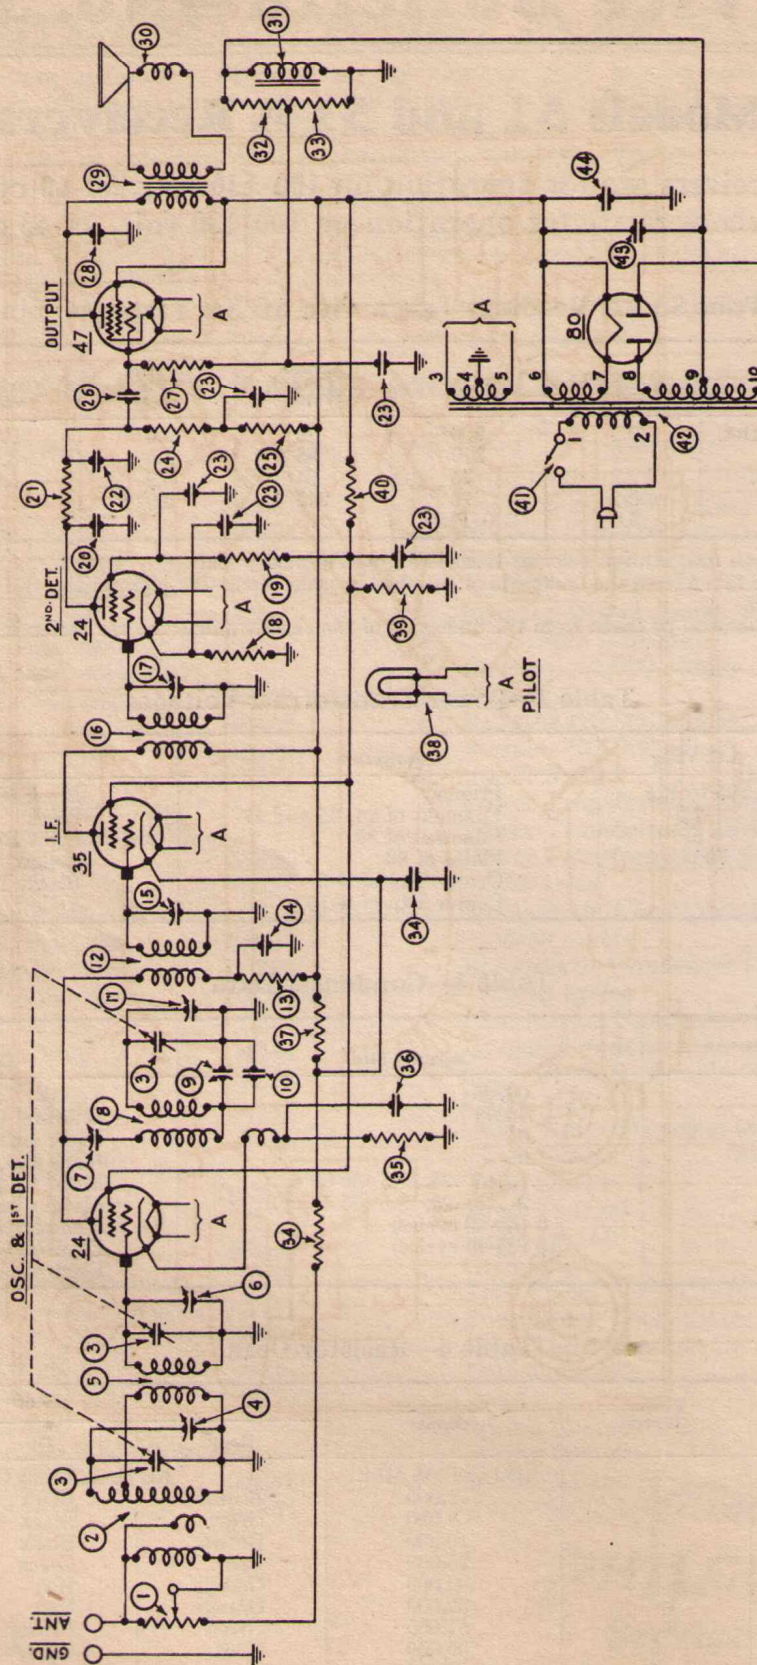

Fig. 1
The placing of certain wires in the receiver will effect the operation to a marked extent. The red wire from the primary of the first I. F. transformer (12), Figs. 1 and 2, to the .05 mfd. condenser (14), Figs. 1 and 2, must come straight down to the corner of the I. F. tube socket, then straight up to the condenser lug.
The wire from the plate of the detector-oscillator tube to the coupling compensating condenser (7), Figs. 1 and 2, must be away from the chassis at the side.